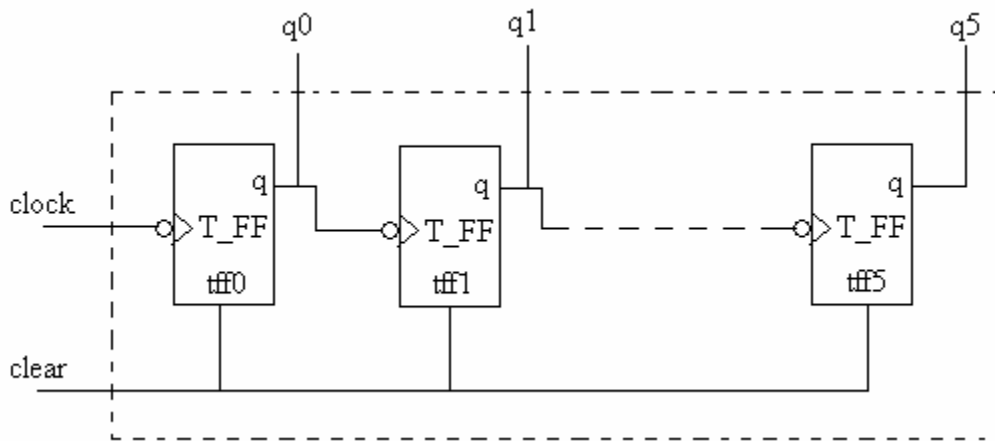

Fig. 2.1 Schematic of a 6-bit counter
In this part, you are required to design a 6-bit ripple counter by using negative edge-triggered flip-flops. You should describe your design using Verilog Structural Model, i.e. describing the functionality of a device in terms of gates. A testbench is needed to test your design with a stimulus. The diagrams for the 6-bit ripple carry counter modules are shown in Fig. 2.1. Note that the counter is built with six T flip-flops.
1. Create a top module called “*counter*”. The module should have two input ports, clock and clear, and 6 output ports, q0 to q5, as shown in Fig. 2.1. Your code should contain instantiation of six *T_FF* modules.